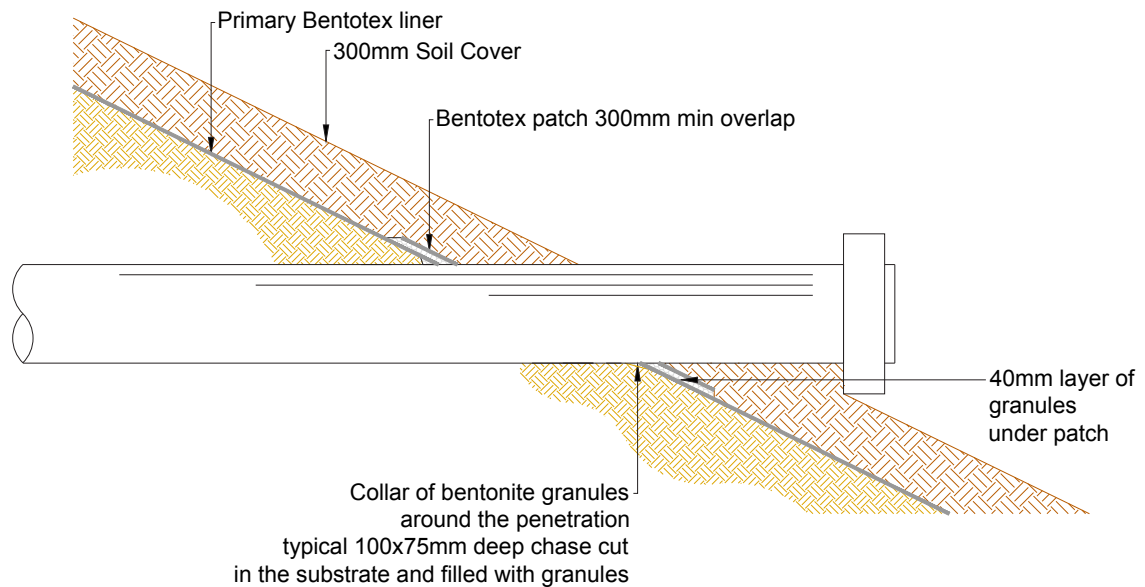

Figure 4a. Cross-Section of a Horizontal Pipe Penetration
- 8.3 When the GCL is placed over an earthen subgrade, a "notch" should be excavated into the subgrade around the penetration (Figure 4a). The notch should then be backfilled with granular bentonite.